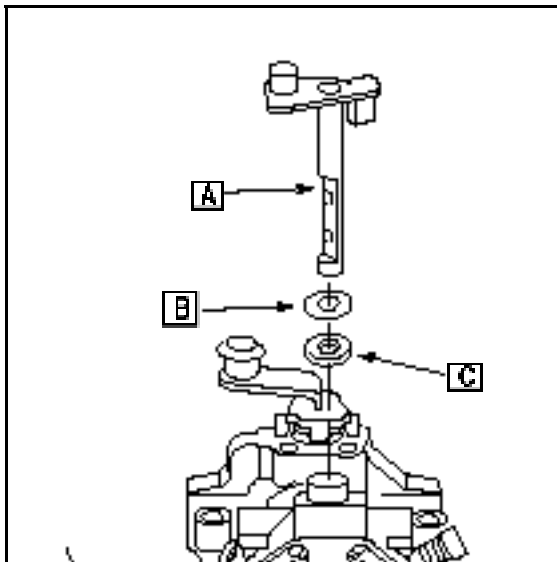

Fig. 58
15. Slide the throttle shaft (A) Fig. 58) out of the carburetor body.
16. Remove the washer (B).
17. Inspect the shaft seal (C) Fig. 58).